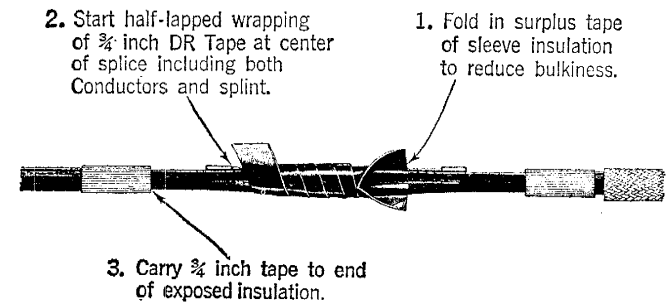

Fig. 11
4.03 Wrap splice in two continuous, half-lapped layers of DR Tape as shown in Figs. 11 and 12.